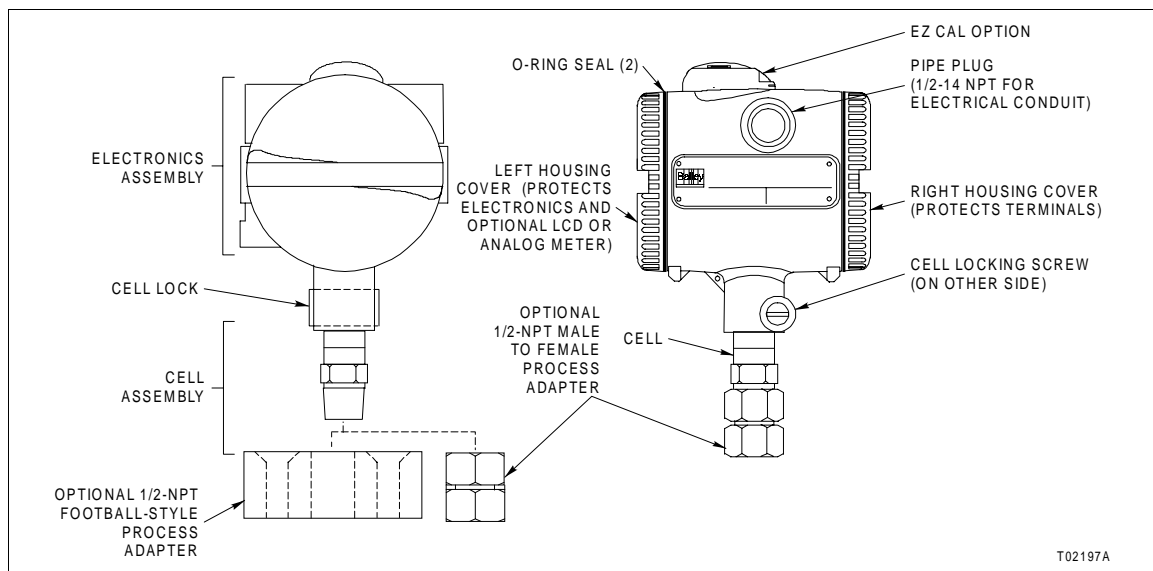

Figure 2-1. Type PTSP Transmitter
This section describes the Type PTSP Platinum Standard Smart Pressure Transmitter. It also includes information about special functions such as the function generator. Refer to Figure 2-1 for an illustration of the transmitter.
1. Remove the left housing cover from the electronics housing (Fig. 2-1).